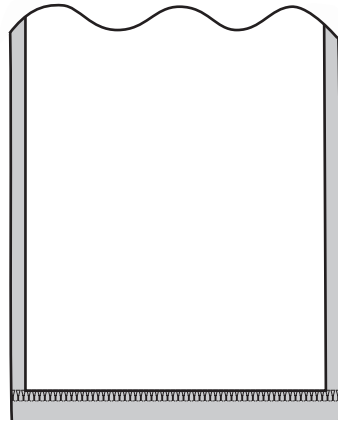

Fig. 1-6
8. Try on the pants and mark the hem, allowing for any trim that will be below the hem. Allow for a 1-inch (2.5-cm) hem and trim away any excess fabric. Finish the leg edges. Press 1 inch (2.5 cm) of fabric to the inside and stitch close to the finished edge. (Fig. 1-6)